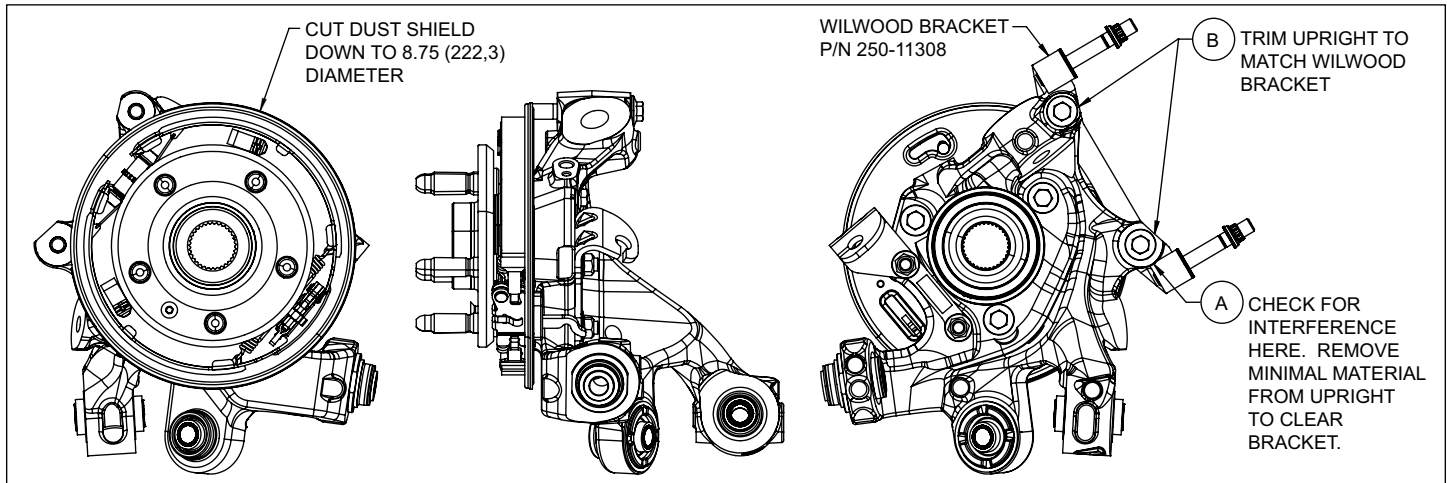

Figure 3. Backing Plate / Dust Shield / Caliper Mounting Tabs Modifications
- The rear backing plate/dust shield and OE caliper mounting tabs needs to be modified as shown in Figure 3 to clear the new Wilwood rotor and caliper mounting bracket (1). **NOTE:** It is recommended that the backing plate be removed before modification, and the modifications be performed by a qualified machine shop. After backing plate removal, cut the dust shield to 8.75" diameter as shown in Figure 3. Temporarily mount the caliper mounting bracket as shown in Figure 3 and Photo 1. Figure 3, Item "A": Examine the fit of the bracket against the OE caliper mounting tabs and remove just enough material so that the bracket mounts flush. Figure 3, Item "B": Once the bracket fits flush, mark the tabs to match the bracket profile as shown. Remove the bracket, then remove just enough material from the OE mount ears to match the marks.